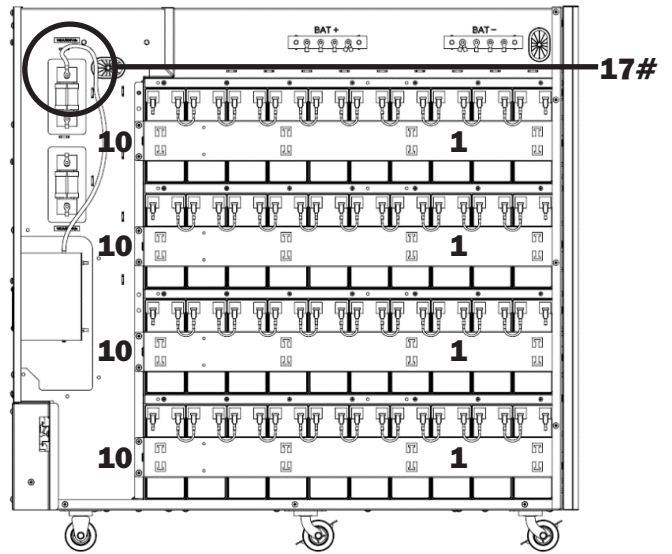

Figure 5-26
- 38. Connect the fuse to the BAT- circuit breaker (Figure 5-26).